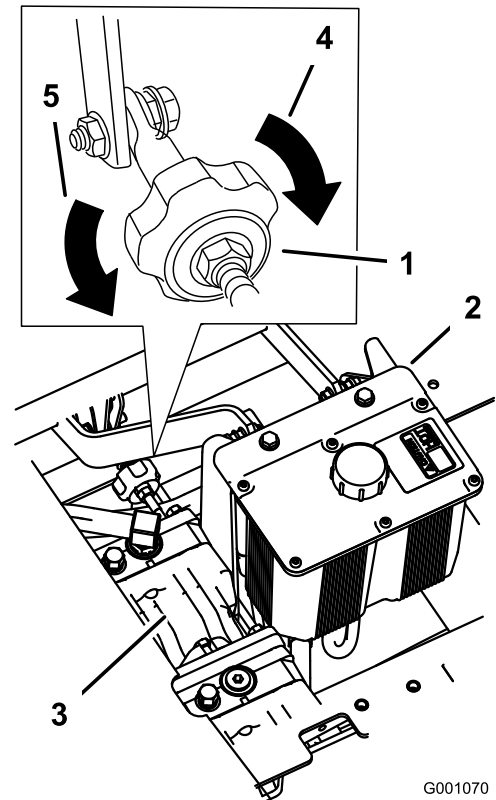

Figure 87
2. Adjust the pump rod length by rotating the knob, in the appropriate direction, until the wheel is still or slightly creeping in reverse (Figure 87).